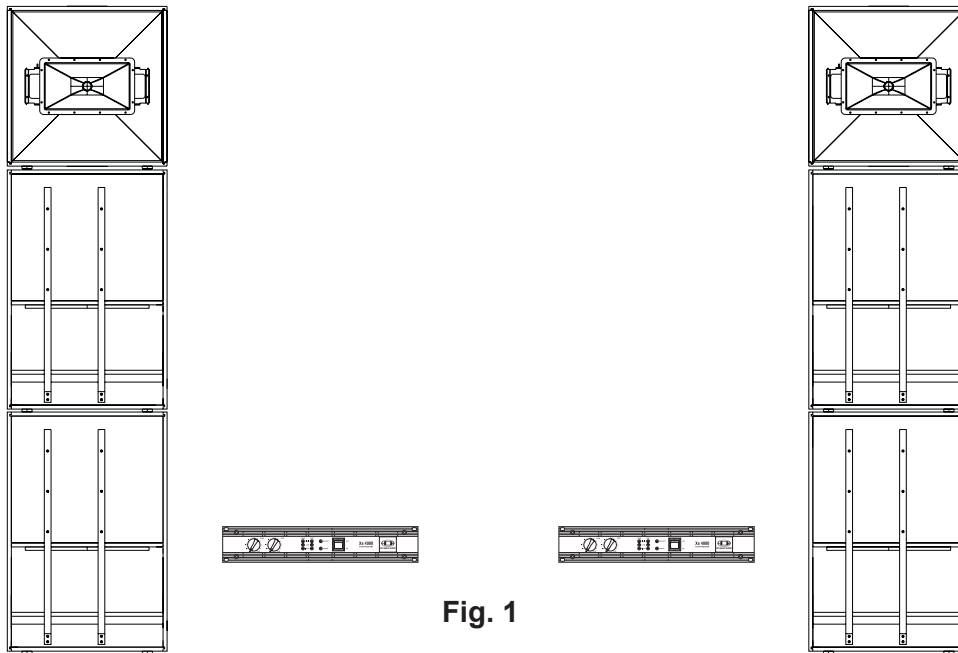

Fig. 1
**Fig. 1** shows a standard setup consisting of 2x Xa 4000, 2x FX12 used as Mid/Hi cabinets and 4x FX 20 used as woofer cabinets. This all-purpose setup fulfills the requirements of most applications. The use of four FX 20 bass cabinets produces solid low-frequency sound reproduction, which is most favorable for revival and jazz-rock bands as well as for other bass drum-oriented musical styles when performed in medium size clubs or festival tents.